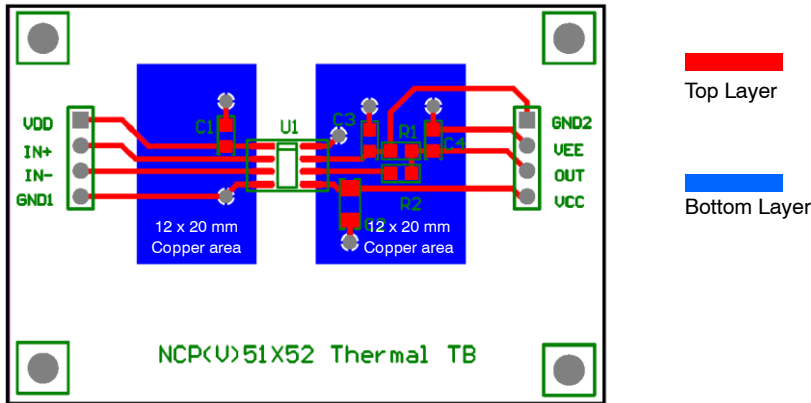

Figure 5. Reference Layout for the Type–A
8. As specified for a reference layout shown in Figure 5. The DUT is mounted on a 60 x 40 x 1.6mm FR4 substrate with an additional heat spreading copper of 240 mm2/300 mm2 (Primary/Secondary). The copper thickness is 1oz and test conditions is under natural convection or zero air flow.